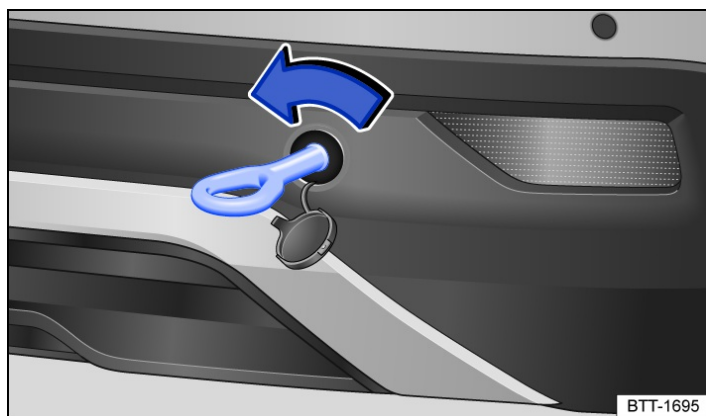

Fig. 2 In the rear bumper on the right: screwing in the towing eye: screwing in the towing eye.
- Screw the towing eye anticlockwise into the threaded hole and tighten as far as possible → Fig. 2 , → ⓘ. Use a suitable object to screw the towing eye fully and securely into the mounting.